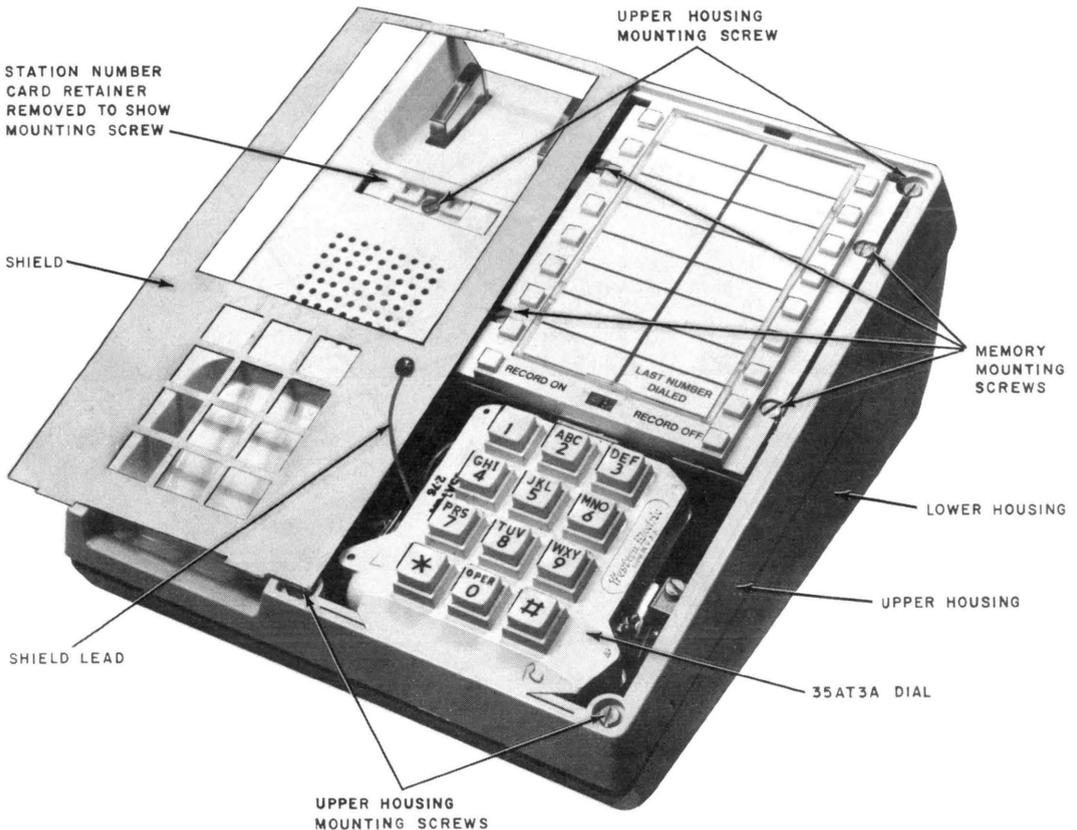

Fig. 4—2960A01M Telephone Set With Handset and Faceplate Removed and Shield Laid Aside
- ♦841388721 Shield (Fig. 4)♦
- **Shield**—underneath faceplate and is positioned over the dial and Memory (Fig. 4).
- **TOUCH-TONE Dial**—fastened by two screws and located on the top side at right-front corner of the chassis (Fig. 4).
- **Memory**—fastened by four screws and located just to the rear of the dial on the top right side of the chassis (Fig. 4).
- **Upper Housing**—fastened by four screws to the top side of the chassis (Fig. 4).
- (1) Unplug the modular handset cord at the telephone set end and remove handset.
- (2) ♦Remove the faceplate (3.14) and place the shield aside (Fig. 4).♦
- (3) Remove the station number card retainer and station number card.
- (4) Disengage the four captive upper housing screws (Fig. 4).
- (5) Remove the upper housing ♦by slipping the shield through the faceplate cutout.♦
- (6) To replace the upper housing, reverse the procedure.